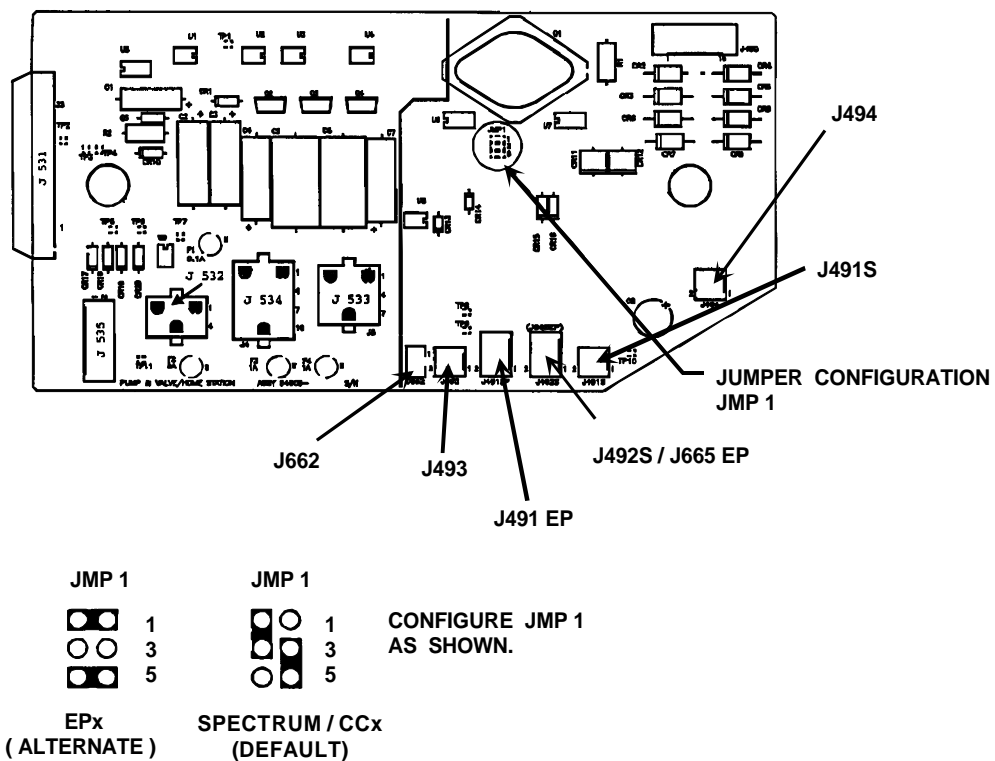

Figure 2
8. Ensure that the jumper configuration is correct by comparing the new board to the jumper illustration in Figure 2.